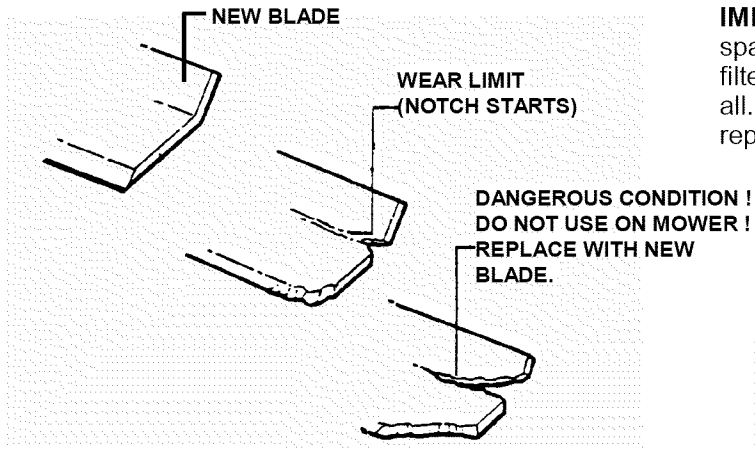

FIGURE 4.1
1. Inspect blade frequently for signs of excessive wear or damage. See Figure 4.1.
2. Replace the blade if it is badly chipped, bent, noticeably out of balance or has cracks or notch in either tip. See Figure 4.1 & 4.1A. Replace with new blade.
- Reinstall blade. See Figure 4.1. Check torque of blade retaining cap screw. Recommended torque should be 30 to 40 ft. lbs.